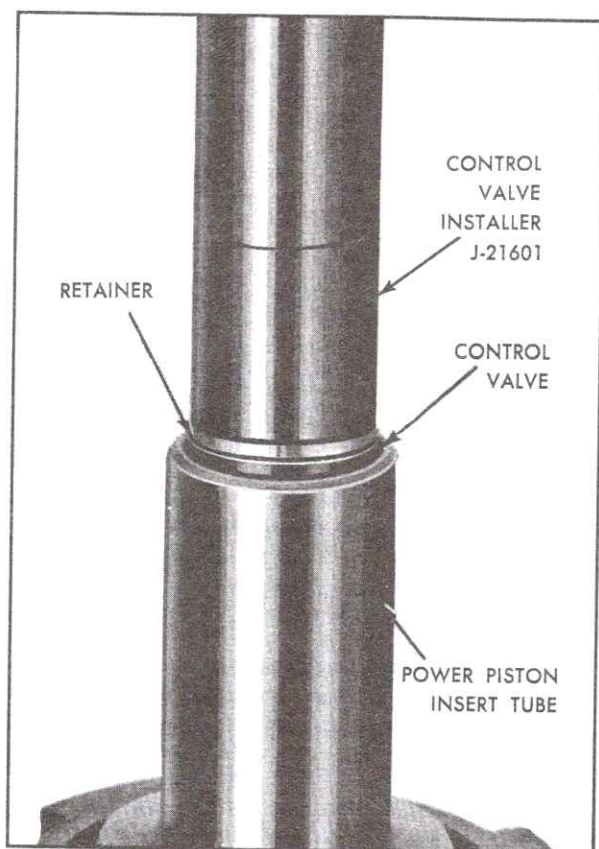

Fig. 5-17 Installing Control Valve Assembly
2. Position control valve and rod assembly in neck of power piston insert tube and position retainer on top of control valve. Using Control Valve Assembly Installer, J-21601, seat assembly in tube, Fig. 5-17.